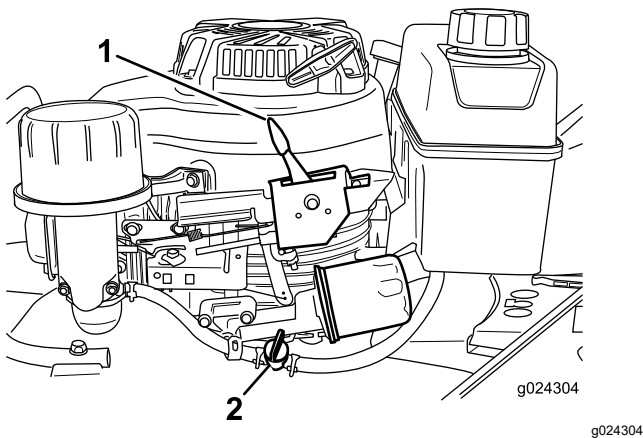

Figure 15
2. Open the fuel valve (Figure 15).
3. Move the throttle-control lever (Figure 15) to the CHOKE position.
Release the blade-control bar and move the throttle-control lever (Figure 15) to the STOP position.
Note: Close the fuel valve (Figure 15) if you will not be starting the engine soon afterward.